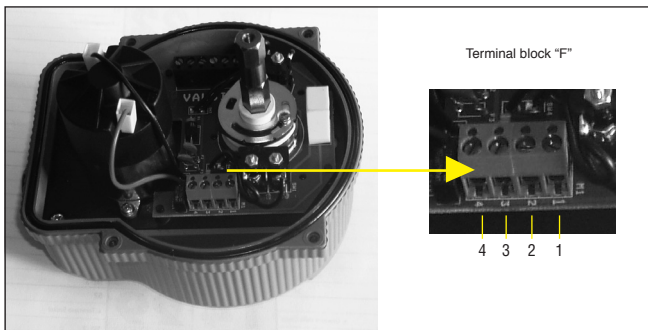

Fig.2 Plate for supply 12 and 24V AC/DC and particular of terminal block "F"
- Screw the fasteners (D) to remove the upper cover (A).
- Raise up the cover (A) carefully to avoid to damage the internal electric parts.
- Turn in the electric supply cable (diam. 6 ÷ 9 mm / 0,24±0,35 inch) by the properly bolts (E) (PG11).
- Proceed to connect the cable in its proper terminal-block (F) by looking at the wiring diagram (please also review the tag you find inside the cover) according to the different voltage (see 4.2 and 4.3).
4.2 Electrical connection (fig. 2)